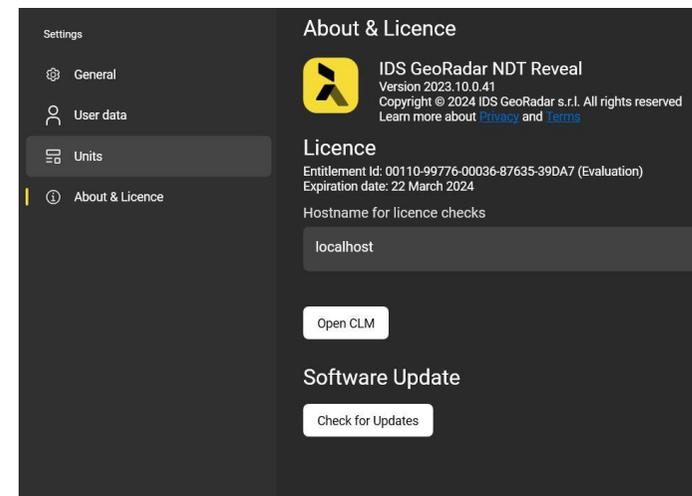

Fig. 19 About and License Information
4. **ABOUT AND LICENSE:** Verify Information on the SW version and License (Fig. 19).